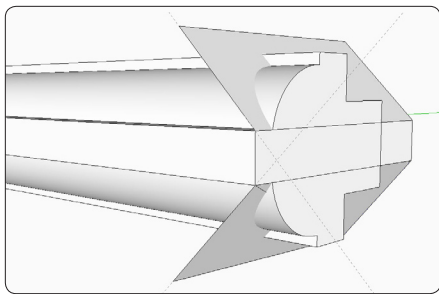
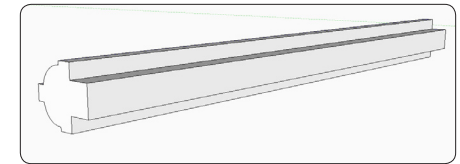

Figure 66. Place cutting planes to miter the end of the muntin.
Figure 65. Use the cross-section shape to make a muntin.
Step 6 Use the Push/Pull Tool to extrude the cross-section shape of the muntin (Figure 65). Draw a pair of cutting planes at 45-degree angles on one end, as shown in Figure 66. Select all the graphics in the muntin and cutting planes, right-click, and choose Intersect Faces with Selection from the pop-up menu. Remove the waste.